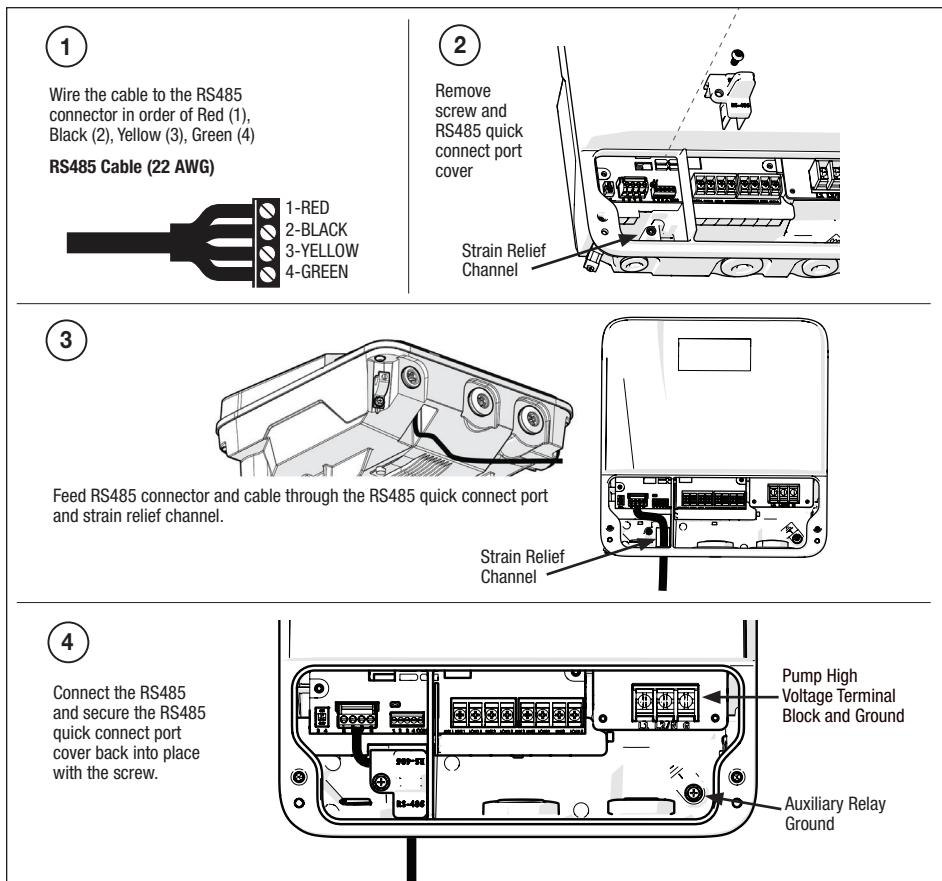
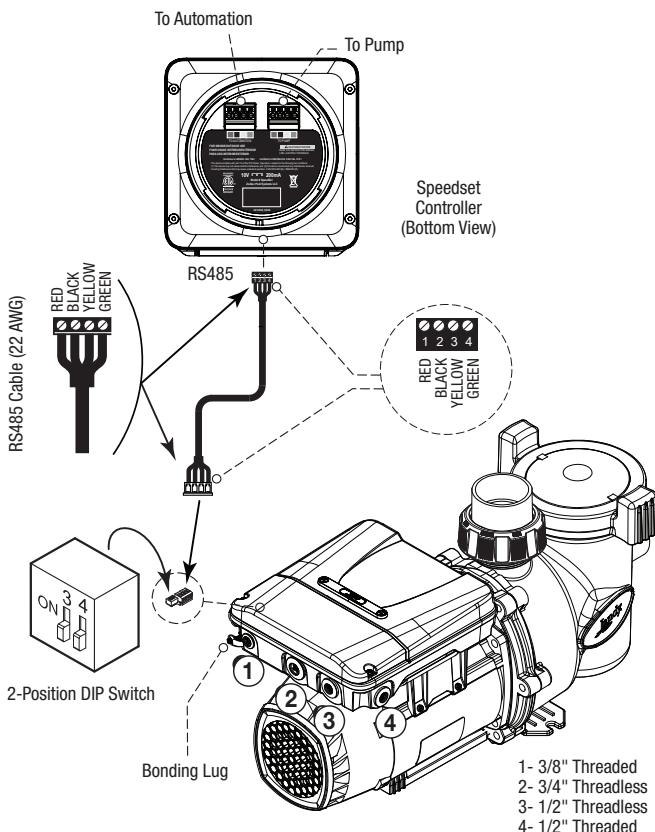
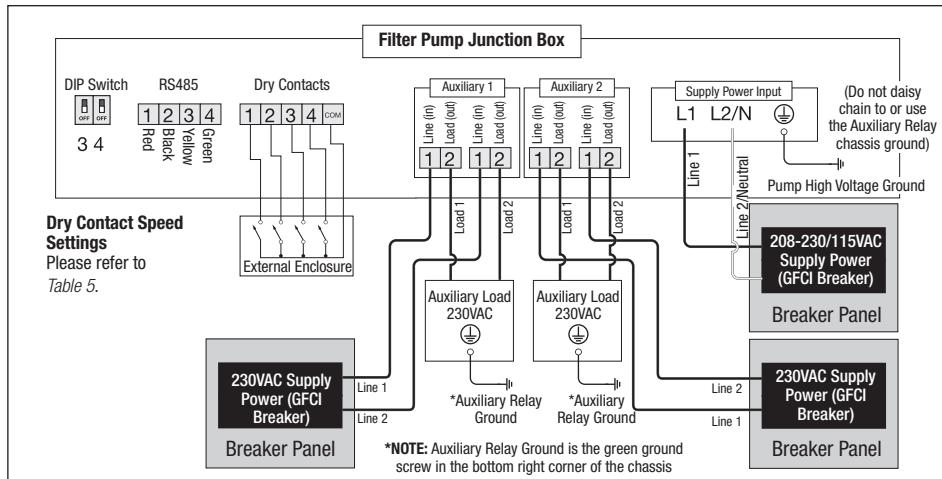
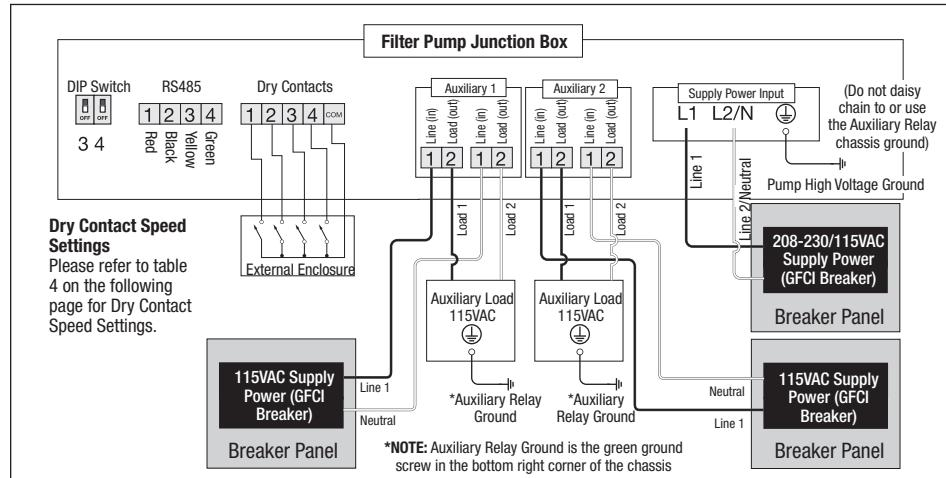

Figure 8. RS-485 Quick Connect Port with Wiring
Figure 9. Wiring to a Controller
Figure 12. 208-230V Auxiliary Relay Wiring Diagram*
Figure 13. 115V Auxiliary Relay Wiring Diagram*
In addition to being properly grounded as described in *Section 3.3.3, Electrical Wiring*, and in accordance with the requirements of the National Electrical Code (NEC), or in Canada the Canadian Electrical Code (CEC), the pump motor must be bonded to all metal parts of the swimming pool, spa or hot tub structure and to all electrical components and equipment associated with the pool/spa water circulation system. The bonding must be accomplished by using a solid copper conductor, No. 8 AWG or larger. In Canada No. 6 AWG or larger must be used. Bond the motor using the external bonding lug provided on the motor frame. See *Figure 9*.
- RS-485 quick connect port (see *Figure 8*)
The high voltage compartment provides 3 conduit port openings (see *Figure 9*):
1. Ground the pump using the green ground screw provided on the high-voltage terminal block. Do NOT ground or daisy chain the ground wire to the secondary green ground screw or daisy chain to on the wiring compartment chassis (see Figures 8 and 12). Also do not ground to a gas supply line.
NOTE: When power alone is supplied to this pump, it will not operate. It requires a digital command sent to it by either a variable speed controller (SpeedSet, JEP-R, or IQPUMP01), an automation system, or use of the dry contacts (See *Figure 8* and *Figure 9* for RS485 wiring illustrations for a local controller or automation system. See *Figure 12* and *Figure 13* for dry contact wiring illustrations).
See *Figures 8, 12 and 13* for compartment details and location of the auxiliary relays and wiring illustrations.
If no inputs are jumped to common, the RPM is zero. When any Jandy controller is connected through RS-485, all dry contact commands will be ignored. Refer to *Figure 12* and *Figure 13* for dry contact wiring. Refer to *Table 5* for dry contact speed settings.